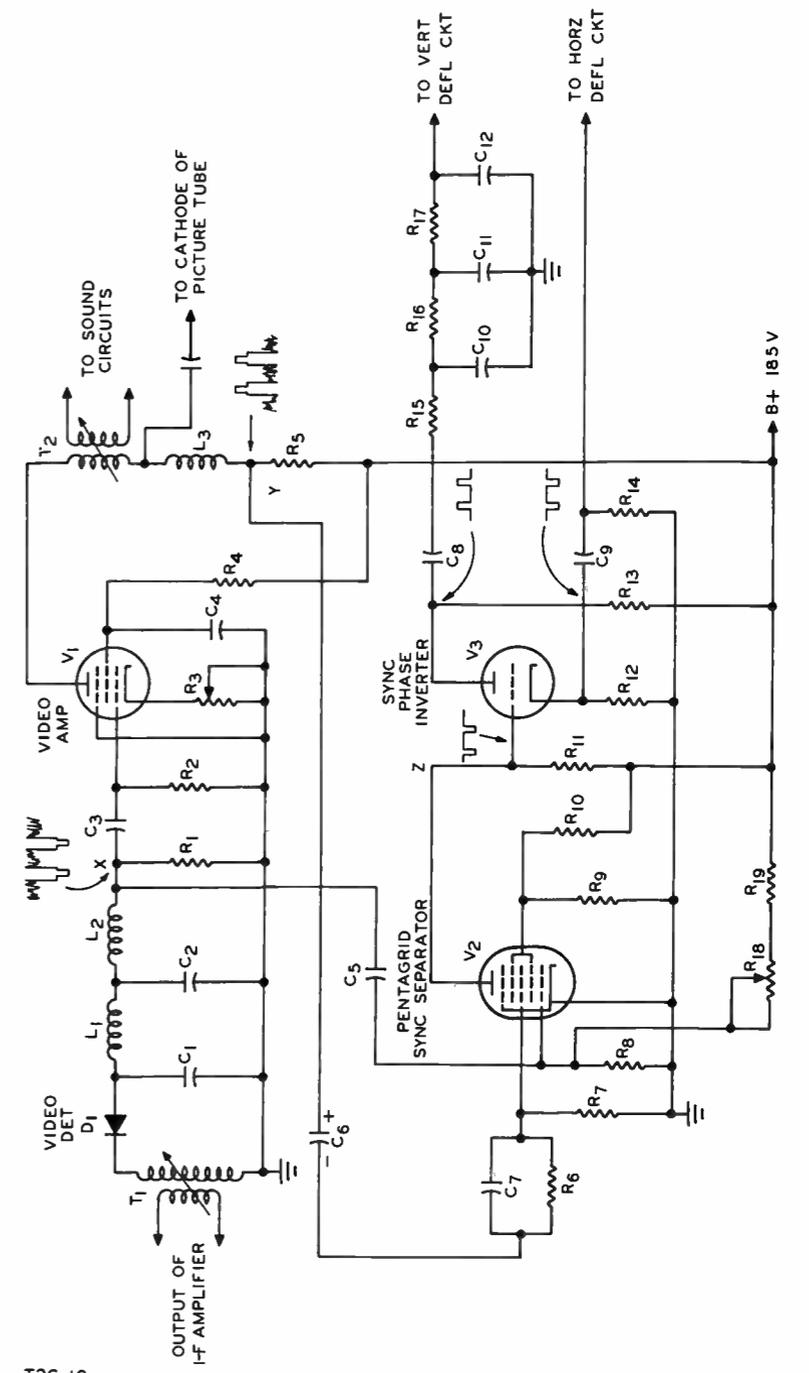

FIGURE 3
3. In the circuit of Figure 3, resistors  $R_6$  and  $R_7$  and capacitors  $C_6$  and  $C_7$  form a .....
4. In the circuit of Figure 3,  $C_9$  and  $R_{14}$  form a .....
3. In the circuit of Figure 3, resistors  $R_6$  and  $R_7$  and capacitors  $C_6$  and  $C_7$  form a **dual time constant network**.
4. In the circuit of Figure 3,  $C_9$  and  $R_{14}$  form a **differentiating network**.
In the circuit of Figure 3, tube  $V_2$  goes into cutoff only (A) during noise-free periods. (B) if its cathode voltage swings negative. (C) during the sync pulse intervals. (D) when high amplitude noise pulses are present.
In the circuit of Figure 3, the plate of  $V_1$  applies the video signal with positive going pulses through  $C_6$  and  $C_7$ . To cancel noise in this signal, negative going pulses are applied (A) to the grid of  $V_3$  from the plate of  $V_2$ . (B) to the plate of  $V_1$  from the video detector. (C) to  $C_5$  from the anode of  $D_1$ . (D) to the grid of  $V_2$  from potentiometer  $R_{1a}$ .